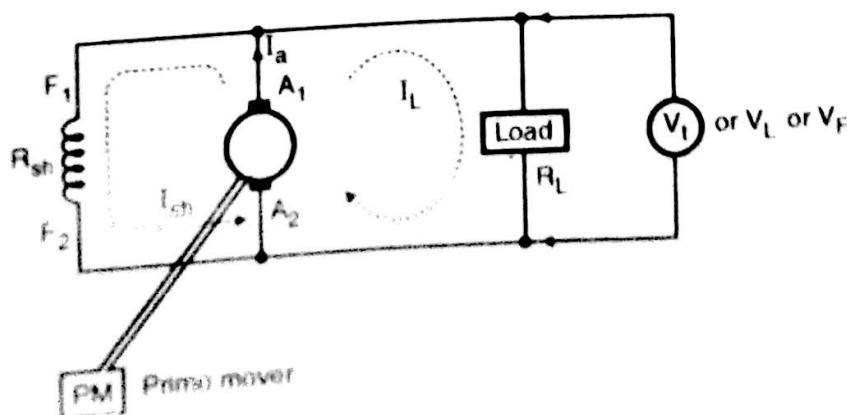

Fig. 5.7 : Shunt generator
- The term shunt indicates the parallel connection. The connections between the armature and field windings are as shown in Fig. 5.7.